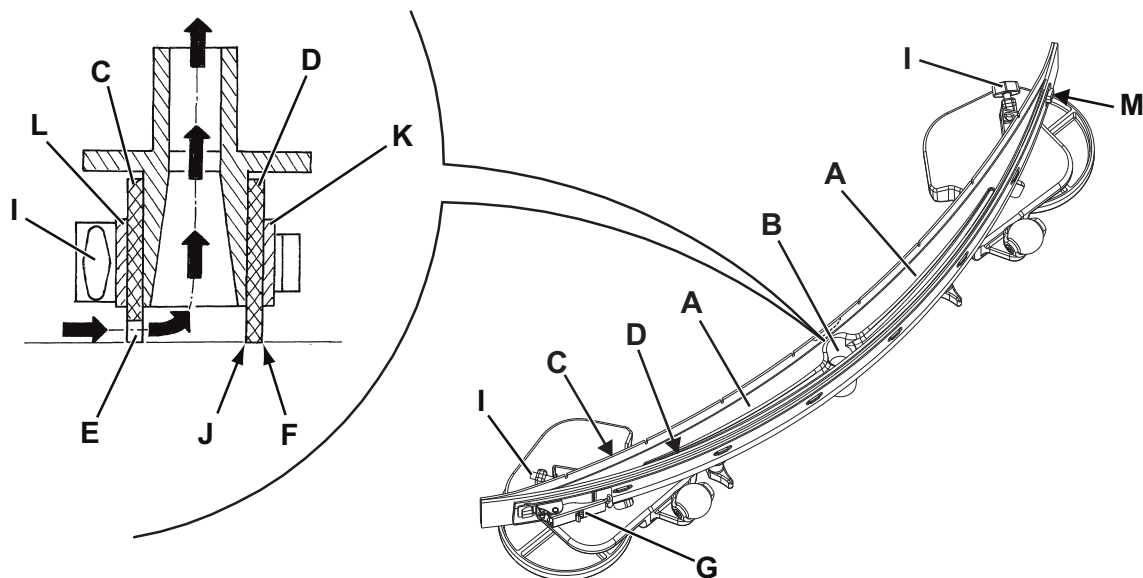

Figure 7
2. Insert the ignition key (58) and turn it to "I".
3. Lower the squeegee (30) with the switch (65).
4. Turn the ignition key (58) to "0".
5. Disconnect the vacuum hose (31) from the squeegee.
6. Loosen the handwheels (34) and remove the squeegee (30).
7. Wash and clean the squeegee. In particular, clean the compartments (A, Fig. 7) and the vacuum hole (B). Check that the front blade (C) and the rear blade (D) are integral and free from cuts and lacerations; if necessary replace them.
1. Clean the squeegee (Fig. 7) as shown in the previous paragraph.
2. Check that the edge (E) of the front blade (C) and the edge (F) of the rear blade (D) lay down on the same level, along their length; otherwise adjust their height according to the following procedure:
- Remove the tie rod (G), disengage the fastener (M) and adjust the rear blade (D); then engage the fastener and install the tie rod.
- Loosen the handwheels (I) and adjust the front blade (C); then tighten the handwheels.
3. Check the front blade (C) and rear blade (D) for integrity, cuts and tears; if necessary replace them as shown below. Check that the front corner (J) of the rear blade is not worn; otherwise, overturn the blade to replace the worn corner with an integral one. If the other corners are worn too, replace the blade according to the following procedure:
- Remove the tie rod (G), disengage the fastener (M) and remove the retaining strip (K), then replace/overturn the rear blade (D).
- Unscrew the handwheels (I) and remove the retaining strip (L), then replace the front blade (C).
4. Connect the vacuum hose (31) to the squeegee.